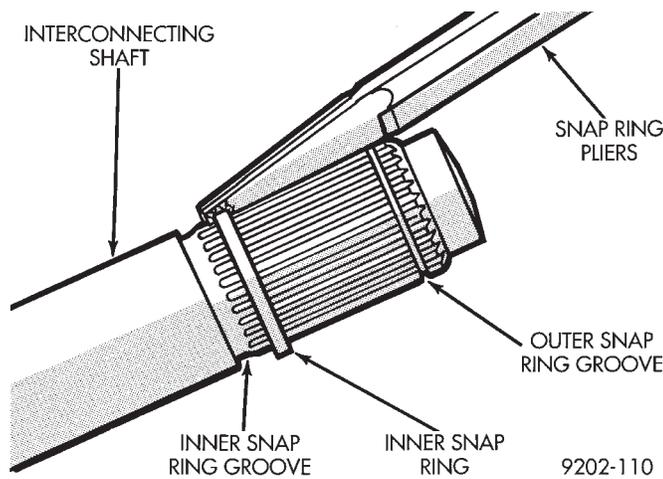

Fig. 11 Removing Inner Tripod Retaining Snap Ring (G.K.N.)
(3) Remove the inner tripod assembly to interconnecting shaft, retaining snap ring from the of interconnecting shaft (Fig. 11).